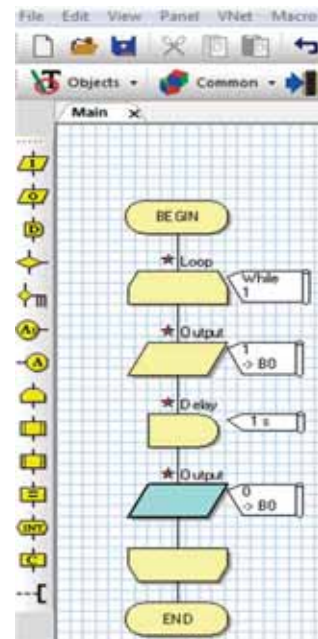

Figure 5: Insert an Output block and turn off the port pin
4. Insert another Output block after the delay block and turn OFF the port pin, as shown in Figure 5.